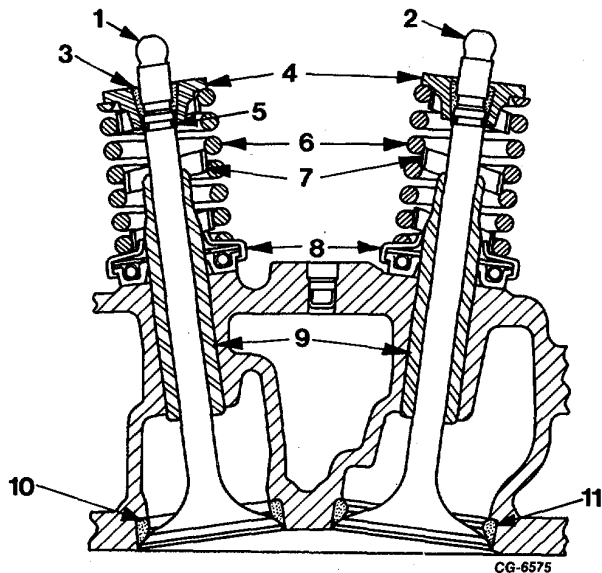

Fig. 111 Sectional View of Valve Installation
- b. Release spring compressor and remove spring retainer, valve spring and damper assembly, valve stem seal and Rotocoil assembly (Figure 111).